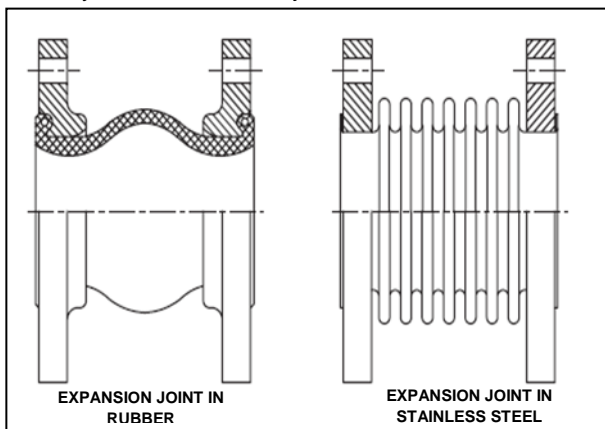

Fig. 2.8
The flexible sleeve (Fig. 2.8), made of reinforced rubber, is intended for fitting with the flanged adaptor described in item 2.9.1.
For working temperatures of up to 110°, the expansion compensator is made of reinforced rubber with an omega section; for higher temperatures, the use of a stainless steel compensator is preferred. (See Fig. 2.8)